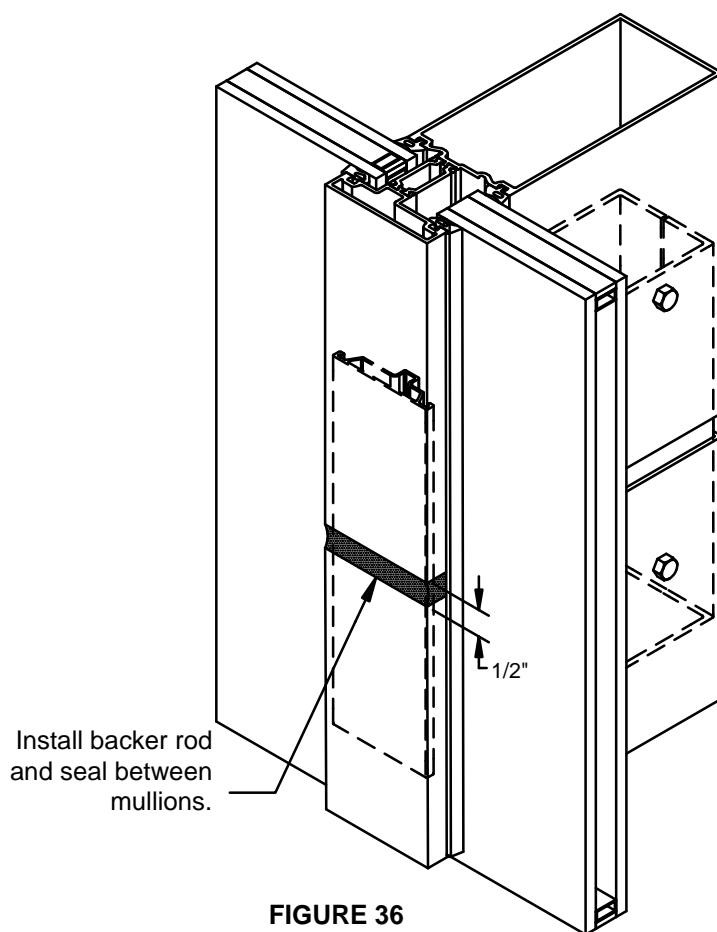

FIGURE 36
- B.3 Seal face of WW-520 and similar verticals by installing backer rod in joint and seal per FIGURE 36.